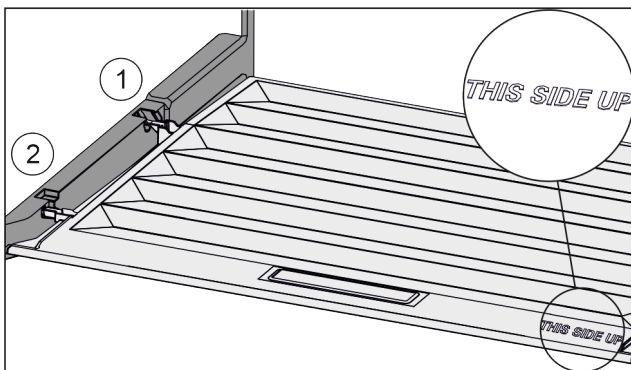

Fig. 52
- ▶ Insert the lip of the cover over the opening of the rear bracket Fig. 52 (1) and click into place Fig. 52 (2).